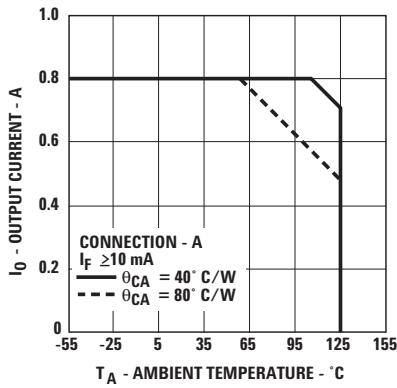
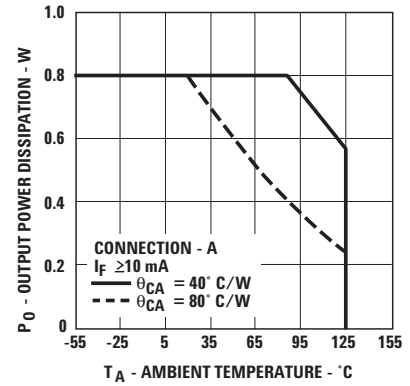

Figure 2. Maximum Average Output Current Rating vs. Ambient Temperature.
Figure 4. Output Power Rating vs. Ambient Temperature.
- For rating, see Figure 4. The output power P_O rating curve is obtained when the part is handling the maximum average output current I_O as shown in Figure 2.
IN ORDER TO DETERMINE V_{OUT} CORRECTLY, THE CASE TO AMBIENT THERMAL IMPEDANCE MUST BE MEASURED FOR THE BURN-IN BOARDS TO BE USED. THEN, KNOWING θ_{CA} , DETERMINE THE CORRECT OUTPUT CURRENT PER FIGURES 2 AND 4 TO INSURE THAT THE DEVICE MEETS THE DERATING REQUIREMENTS AS SHOWN.
The output on-resistance, R_{ON} , specified in this data sheet, is the resistance measured across the output contact when a pulsed current signal ($I_O = 800\text{ mA}$) is applied to the output pins. The use of a pulsed signal ($\leq 30\text{ ms}$) implies that each junction temperature is equal to the ambient and case temperatures. The steady-state resistance, R_{SS} , on the other hand, is the value of the resistance measured across the output contact when a DC current signal is applied to the output pins for a duration sufficient to reach thermal equilibrium. R_{SS} includes the effects of the temperature rise of each element in the thermal model. Rating curves are shown in Figures 2 and 4. Figure 2 specifies the maximum average output current allowable for a given ambient temperature. Figure 4 specifies the output power dissipation allowable for a given ambient temperature. Above 55°C (for $\theta_{CA} = 80^{\circ}\text{C/W}$) and 107°C (for $\theta_{CA} = 40^{\circ}\text{C/W/W}$), the maximum allowable output current and power dissipation are related by the expression $R_{SS} = P_{O(max)} / (I_{O(max)})^2$ from which R_{SS} can be calculated. Staying within the safe area assures that the steady-state junction temperatures remain less than 150°C . As an example, for $T_A = 95^{\circ}\text{C}$ and $\theta_{CA} = 80^{\circ}\text{C/W}$, Figure 2 shows that the output current should be limited to less than 610 mA . A check with Figure 4 shows that the output power dissipation at $T_A = 95^{\circ}\text{C}$ and $I_O = 610\text{ mA}$, will be limited to less than 0.35 W . This yields an R_{SS} of $0.94\ \Omega$.